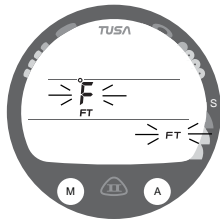

Fig. 27 - SET UNITS
**Set Units**, information includes (Fig. 27):